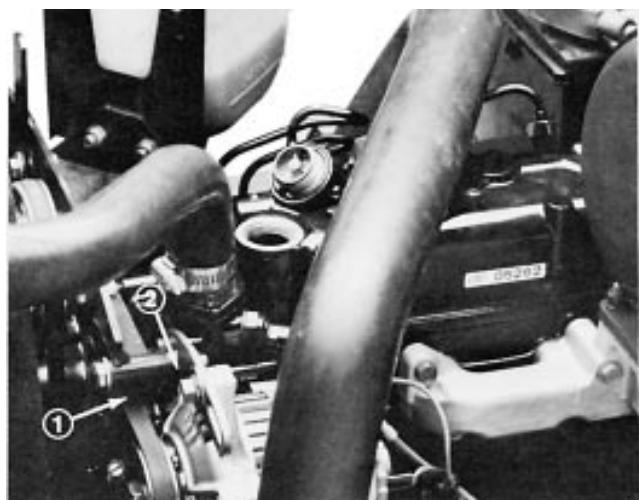

Figure 36
- Loosen bolt securing brace to engine and bolt securing alternator to brace (Fig. 36).
2. Loosen bolts securing brace to engine and alternator to brace (Fig. 36).